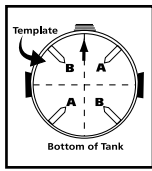
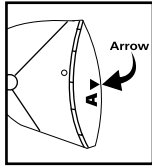
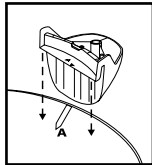

FIGURE 1
FIGURE 2
FIGURE 3
3. Set the tank upside down on the floor. Set the caster feet at approximately 45 degrees from an imaginary line between the inlet mounting and the handle assembly. **FIGURE 1.**
4. Take caster foot marked with the letter **A** and align as shown in **FIGURE 1**. See **FIGURE 2** for caster foot marking.
5. Take caster foot marked with the letter **A** and align arrow on foot **FIGURE 2**, with arrow on template also marked with the letter **A**, **FIGURE 3.**